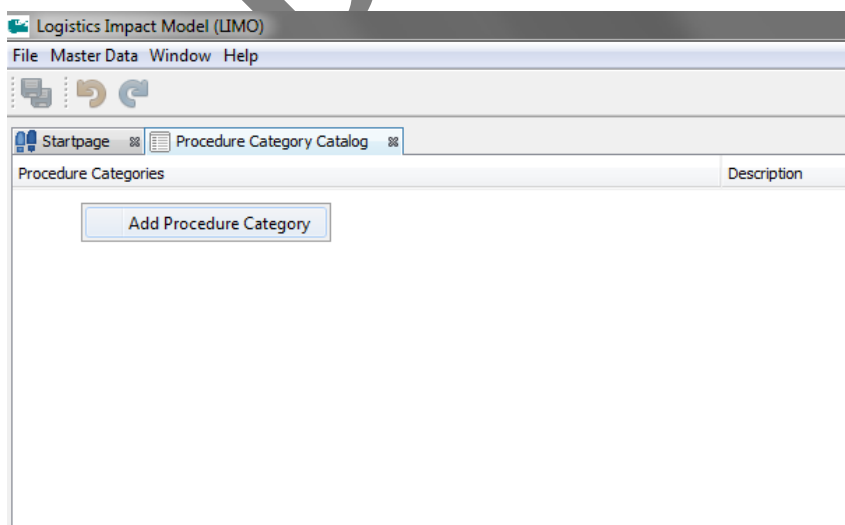

Figure 5: Initial configuration: Managing Master Data - Adding a new Procedure Category 2
- In the Procedure Categories Catalog, right click the white panel and click Add Procedure Category. See Figure 5